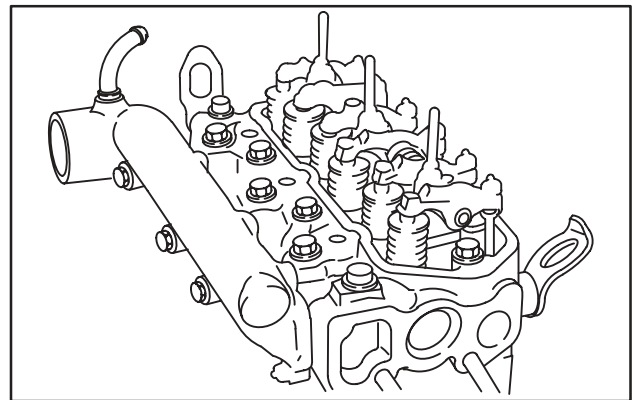

Fig. 36 – Install Intake Manifold
- Install intake manifold with new gasket, Fig. 36.